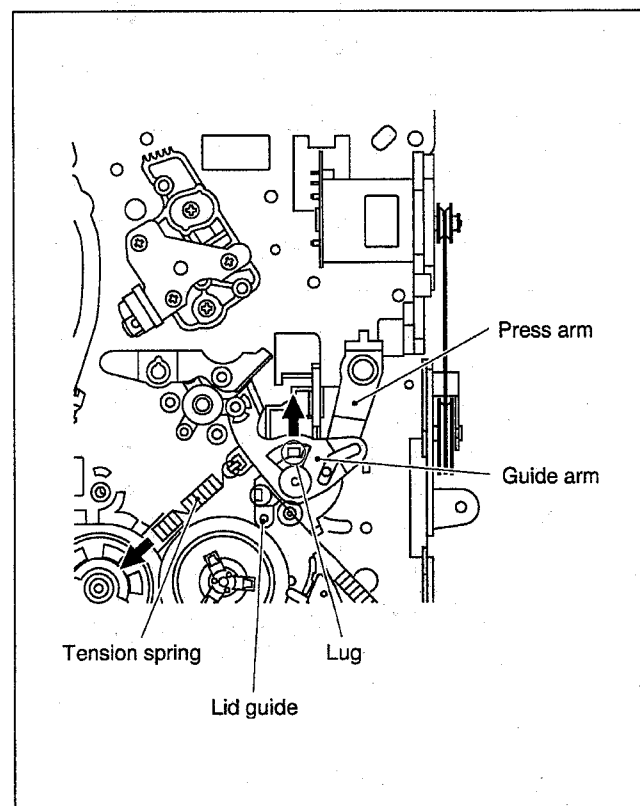

Fig. 2-2-11
- (1) Remove the spring and expand the lug of the lid guide in the arrow-indicated direction. Then remove the guide arm by pulling it up.
- (2) Remove the press arm by pulling it up. (See Fig.2-2-11)